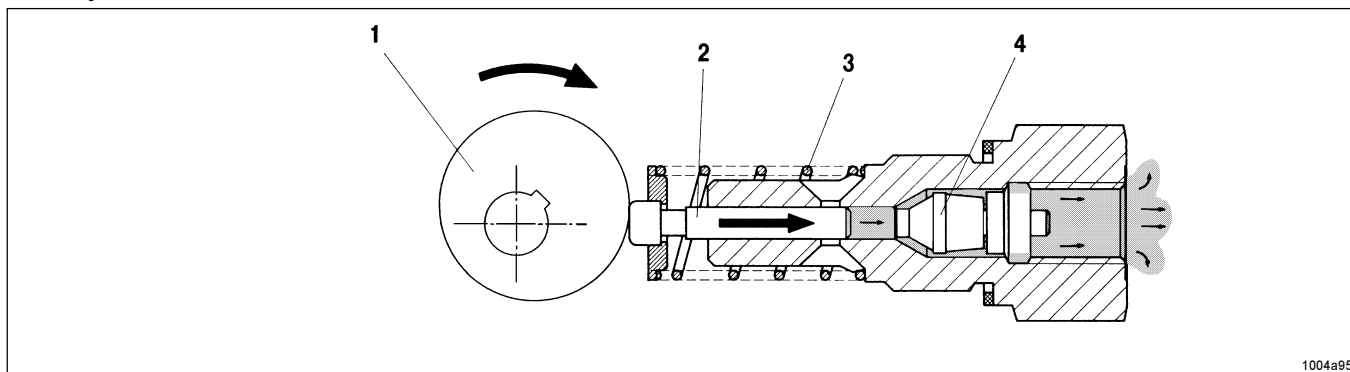

Fig. 6 - The pump element dispenses lubricant
- piston 2 dispenses the lubricant to the connected lubrication points via the metering device. Refer to Fig. 6.